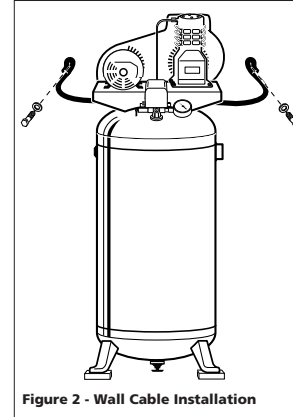

Figure 2 - Wall Cable Installation
- Position the cable through the baseplate as shown in Figure 2.